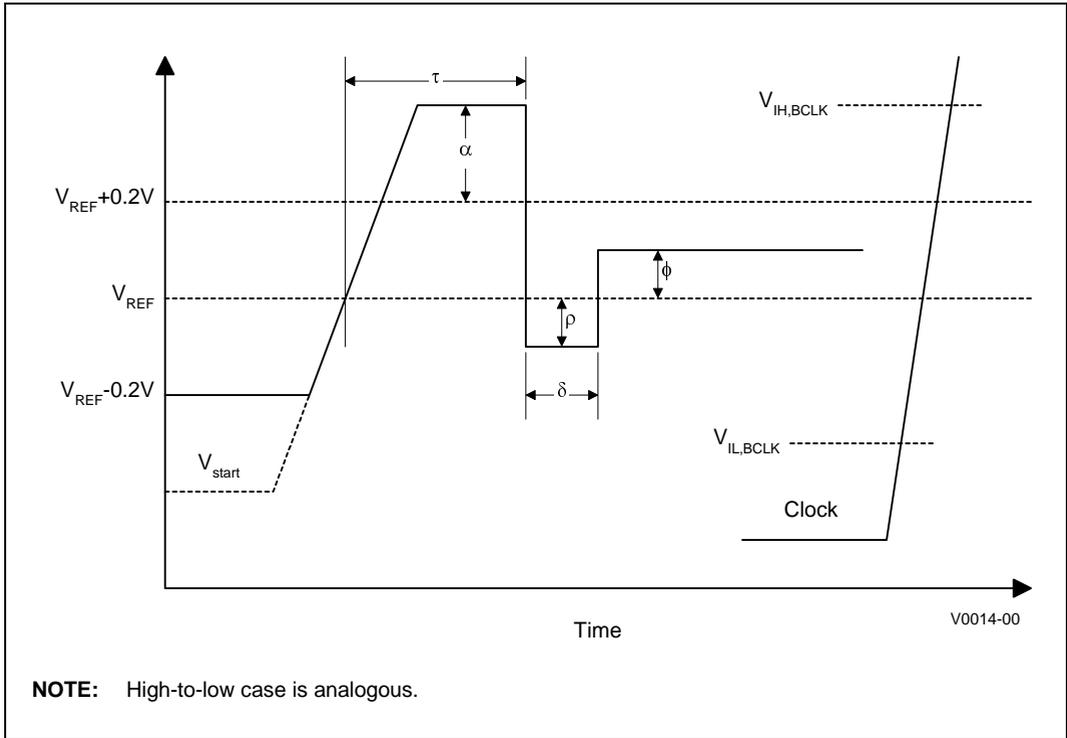

Figure 4.3 Low to High, Low Power GTL+ Receiver Ringback Tolerance
Table 4.3 and Figure 4.3 illustrate the Low Power GTL+ signal quality specifications for the processor
1. Specified for the edge rate of 0.3 – 0.8 V/ns. See Figure 4.3 for the generic waveform.